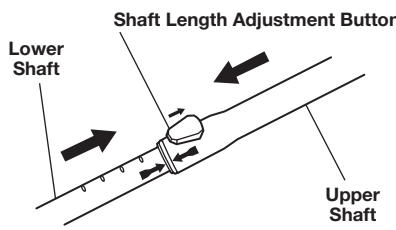

Fig. 2
2. Align the arrows on the upper and lower shafts (Fig. 2).
3. While pushing the shaft length adjustment button up toward the rear handle, slide the upper shaft over the lower shaft until they lock together (Fig. 2).